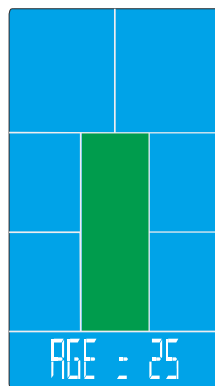

FIGURE 16
7. If select CARDIO function(15), press MODE confirm to next step, and press UP/DOWN to set age, and then press MODE confirm to next screen (Figure16). Set CARDIO 55%~TAG (Figure17). Press UP/DOWN to choose CARDIO 55%, and press MODE confirm to enter this mode. And press UP/DOWN to adjust and set TIME or press START directly to start workout. When there is no PULSE signal input in six seconds after START is executed, LCD will display "PULSE INPUT" to prompt the user (Figure 18).